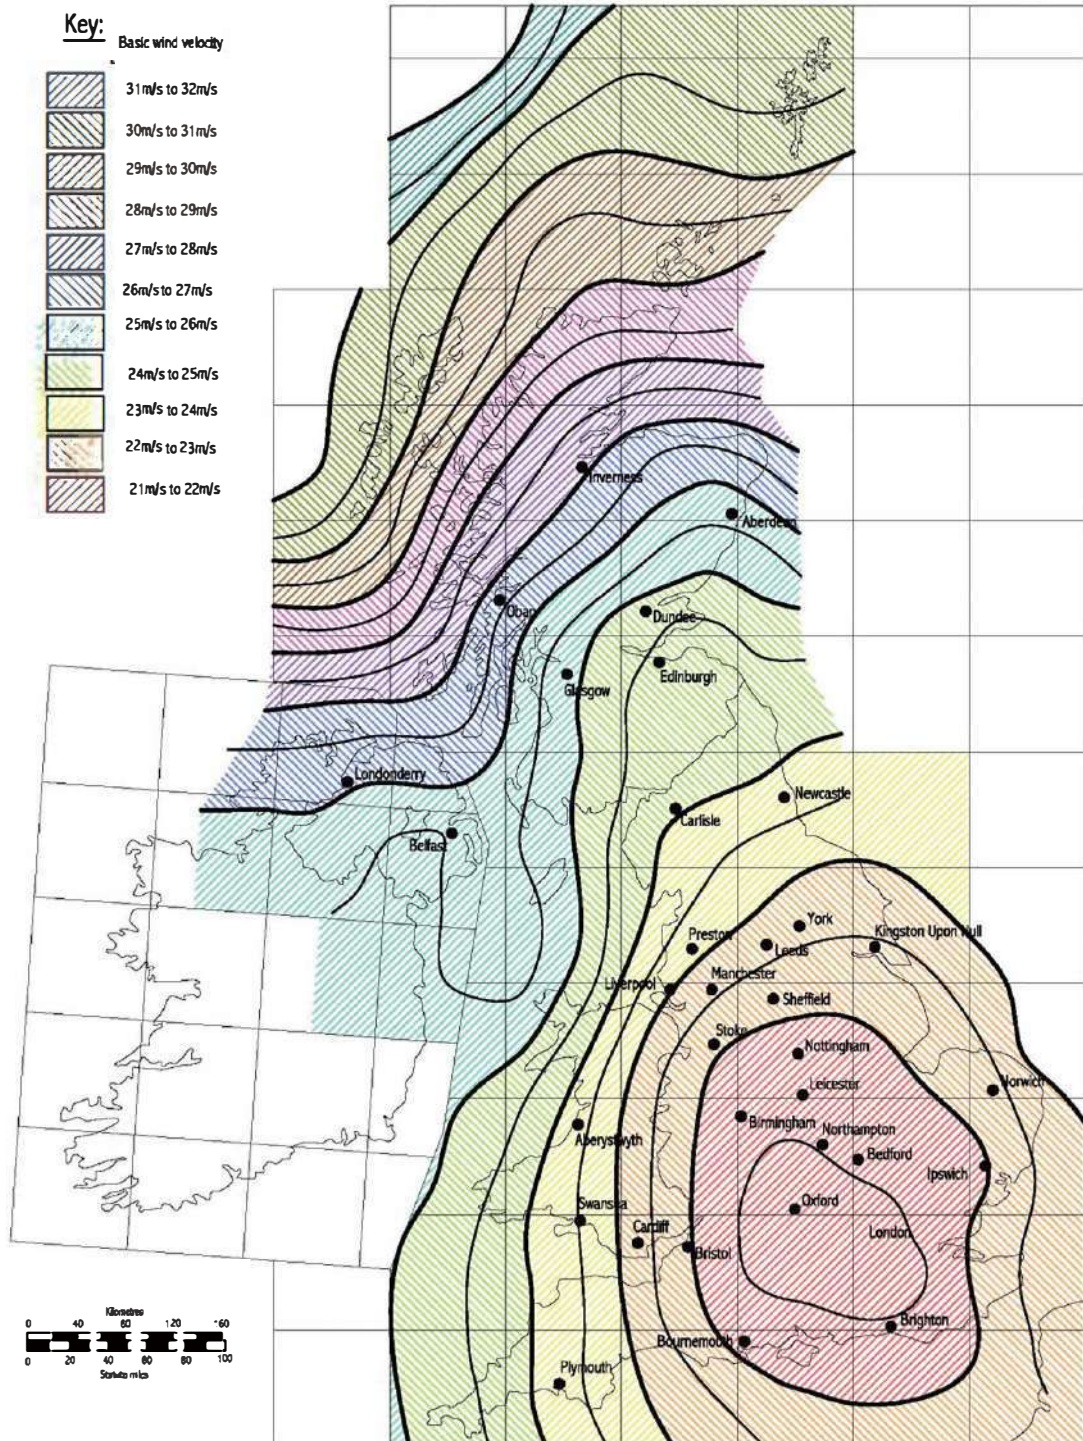

Fig 1. Value of fundamental basic wind velocity map,  $v_{h,map}$
- Basic wind velocity, (see Fig 1)
The wind map below (Fig 1) shows the "fundamental values of basic wind velocity" in m/sec before an altitude correction factor, directional factor, seasonal factor and probability factor has been applied